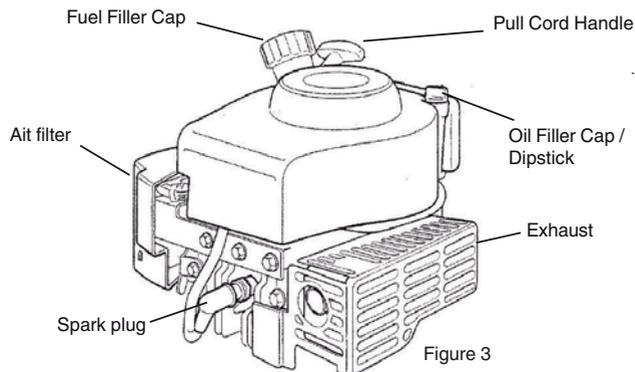

Figure 3
- Put Mountfield 4-stroke, or an SAE 10W-30 oil, in the oil filler (Figure 3). Do not overfill. The oil level should not be above the MAX mark on the dipstick. The oil tank capacity is 0,6 litre. Mountfield oil, part number MX855, is available from any Mountfield stockist or B&Q store.